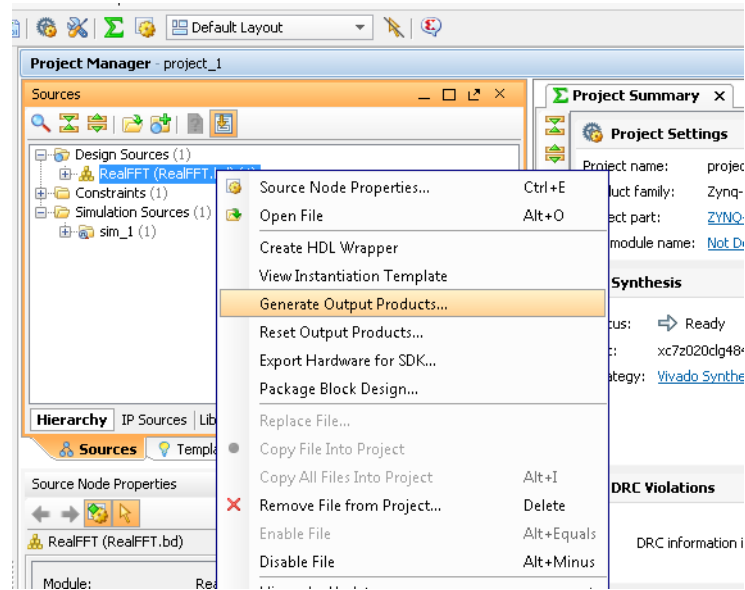

Figure 9-24: Generating Output Products
- a. In the Sources tab of Project Manager pane (Figure 9-24), right-click **RealFFT.bd** and select Generate Output Products.